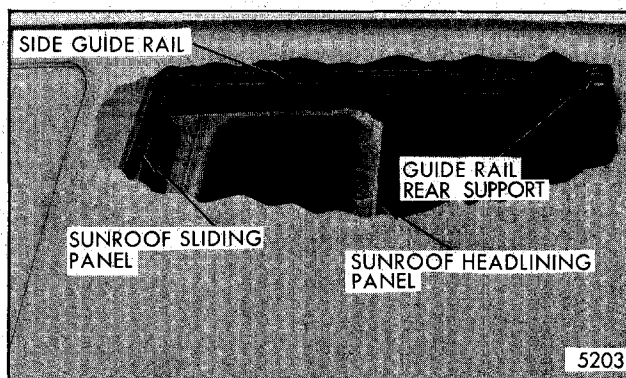

Fig. 8-64-Sun Roof Panel Headlining Engagement in Side Guide Rail
2. Align headlining panel with side guide rail lower channels and move rearward into sun roof housing (Fig. 8-64).
NOTE: If removal of side guide rail is desired, pull same forward for disengagement from guide rail rear support (Fig. 8-64).